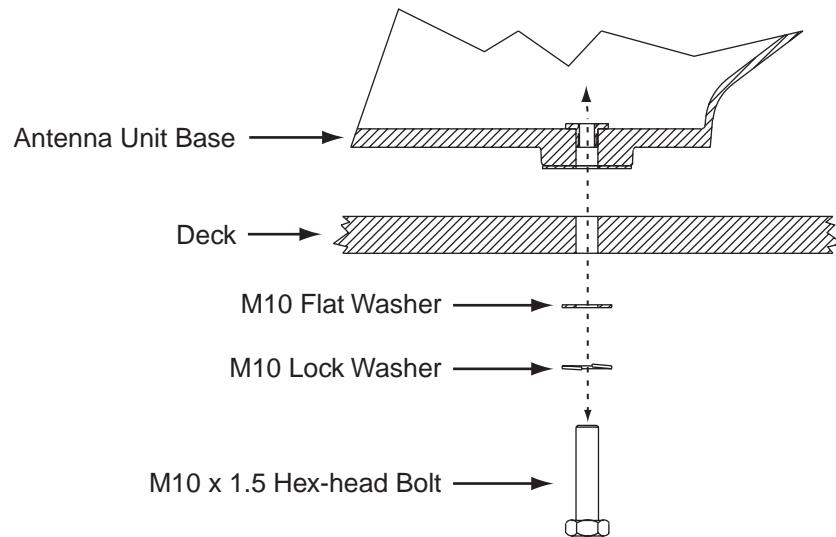

Figure 2-11
- Place the rear logo plate over the cables, so that each cable exits the proper opening (see Figure 2-11). Using the six M4 screws supplied in the kitpack, attach the logo plate to the baseplate as shown in Figure 2-11.